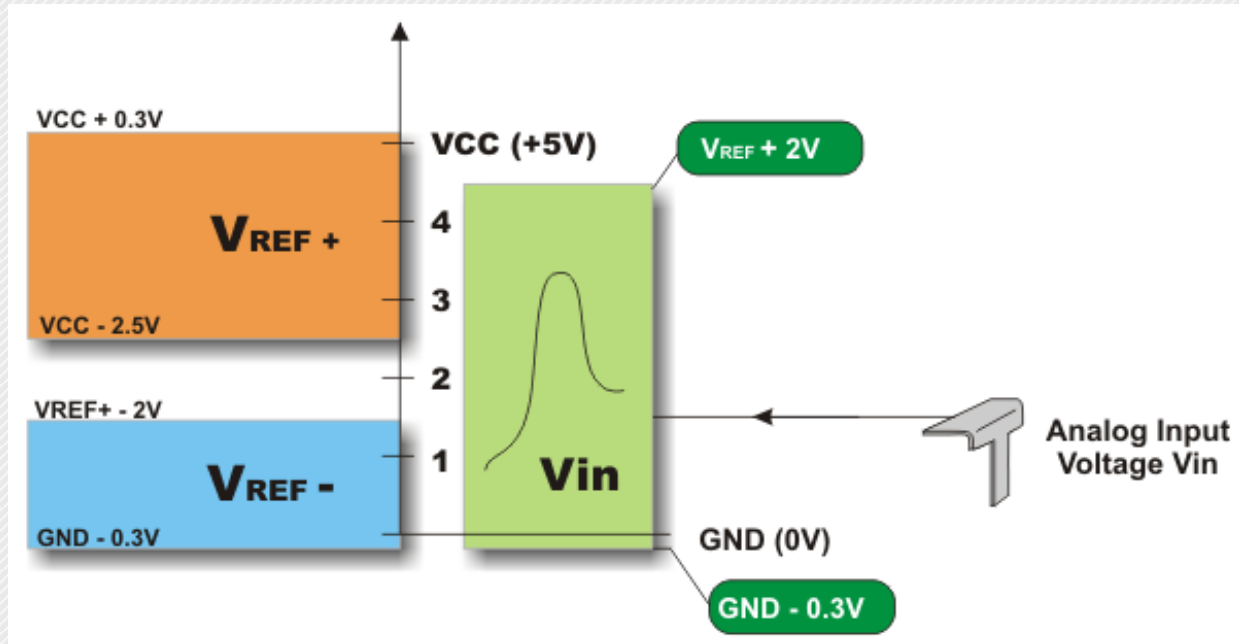

Fig. 7-3 How to Use The A/D Converter
- When the port with analog inputs marked as CH0-CH13 is read, the corresponding bits will be driven to logic zero (0); and
- Roughly speaking, voltage measurement in the converter is based on comparing input voltage with internal scale which has 1024 marks ($2^{10}=1024$). The lowest scale mark stands for the V_{REF-} voltage, whilst the highest mark stands for the V_{REF+} voltage. Figure 7-3 below shows selectable referent voltages and their minimum and maximum values as well.